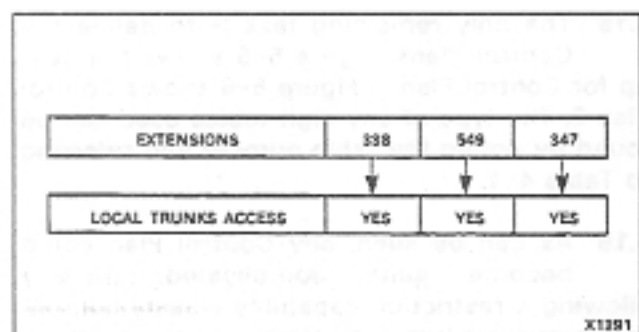

Fig. 5-2 0/1, Toll Restriction
5.07 The first consideration to toll restrict an extension in a PABX would be to limit the ability to access outgoing trunks. This is done when an extension is assigned a Class of Service (COS) (MITL9105/9110-096-105-NA) with a specific Trunk Group access programmed into it. This does not restrict an extension's ability to make toll calls, but rather restricts the ability to access outgoing trunks. The problem in most PABX's lies in a system's ability to restrict an extension after it has accessed a trunk (Fig. 5-2).
5.09 In the examples shown in Figs. 5-2 and 5-3, extension 549 is the only extension which will be permitted to dial a long distance code or access a WATS line. Extensions 338 and 347 will be restricted to local calls only, unless the attendant makes a long distance call and connects the extension to that trunk. Obviously the efficiency of such a system is dubious at the best of times. A toll control based upon the digits or sequence of digits would be preferable to the two outlined situations of 5.07 and 5.08.